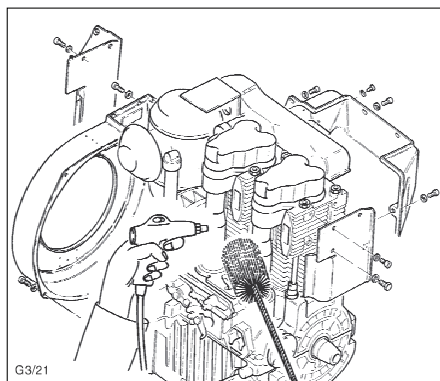
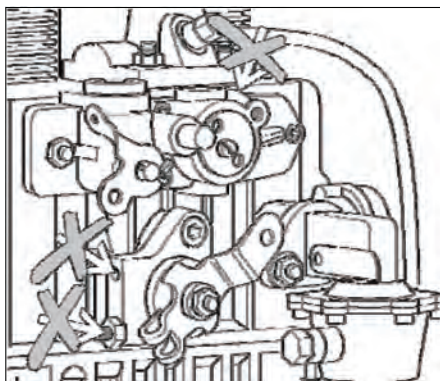

Fig. 22
Fig. 23
- Take out drain plug “1” and allow the oil to drain out completely (fig. 22 without oil sump, fig. 23 with oil sump).